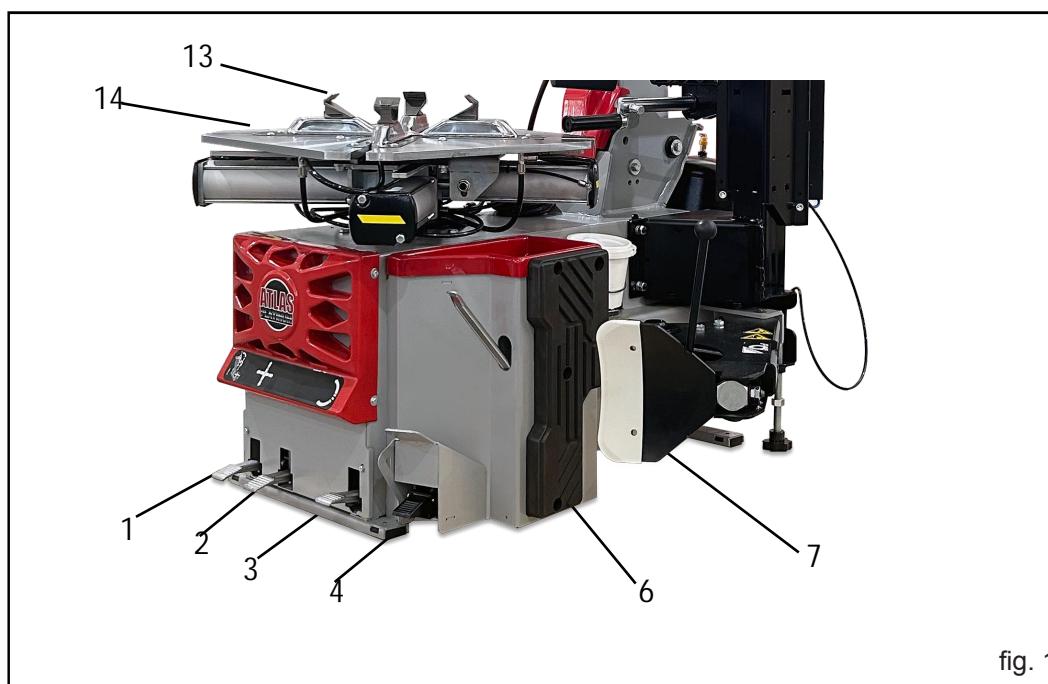

fig. 1
- Close the jaws (13) of turntable (14) completely by pressing the pedal (2).
Position the turntable so that one of its flatsides is parallel to the rubber support surface (6) of the bead-breaker (fig. 1).